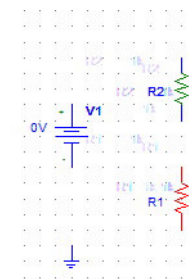

Figure 5-23 Positioned Parts
When an item is selected you can go to the Edit menu and select Rotate (or press Ctrl+R) to rotate the item 90 degrees. This can be repeated until you have the part in the orientation that you want. Do this to the two resistors to place them upright. You should end up with a schematic that looks something like Figure 5-23.